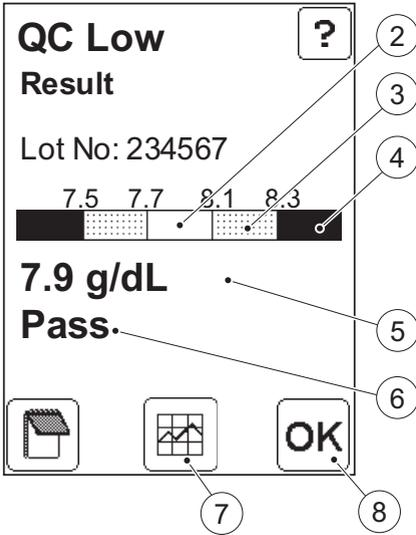

FIGURE 8-10
FIGURE 8-10 will be displayed.
g) If the Failed QC Comment setting is set to “Entry Required” (see 4.4.3 *QC Test Settings*) and the QC Test has failed, then *FIGURE 8-11* will be displayed when the Confirm button shown in *FIGURE 8-10* is pressed. Use the Previous Image button (1) to go back and add at least one comment.
i) Press the Confirm button (16). *FIGURE 8-10* will be displayed.